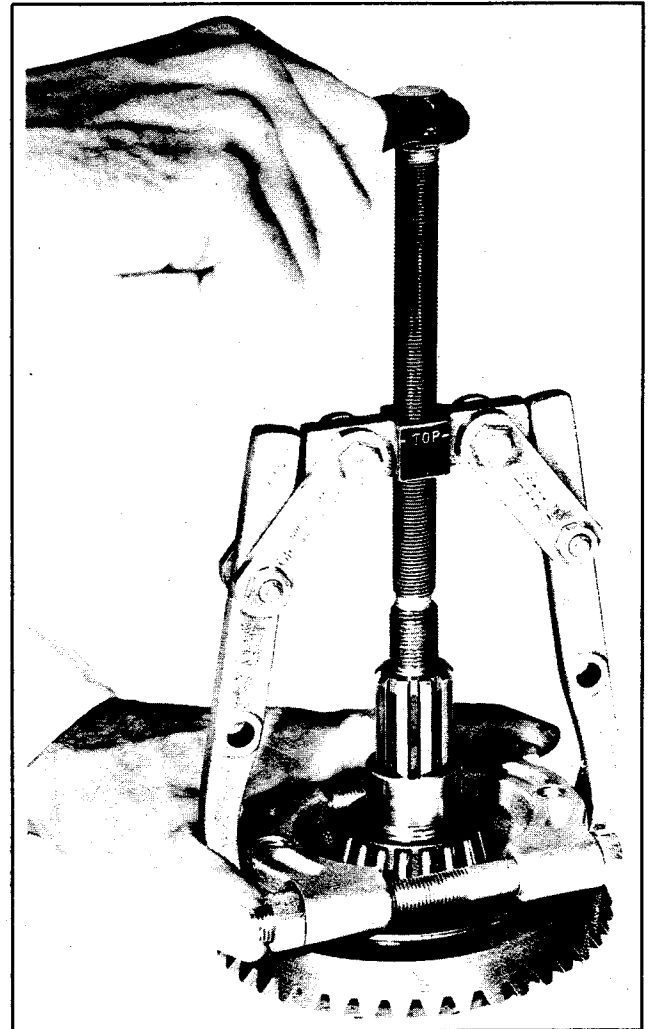

Figure 4D-47. Removing Bearing Cone from Gear
(24) and inner Timken bearing cup (25) off of forward pinion assembly (1). Remove forward pinion bearing shims (26).
Press forward pinion (27), bearing collar (28) and inner bearing cone (29) off of pinion hub (30). NOTE: Temporarily install nut (19) on pinion hub (30) to prevent damaging threads when pressing and use wedge attachment behind pinion. See Fig. 4D-50. Remove key (31) from hub. Press forward pinion hub bushings (32) out of hub only if worn or damaged.